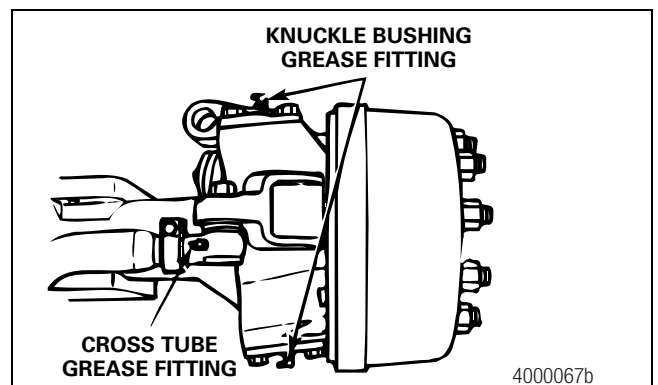

Figure 5.20
1. Check the cross tube for looseness of more than 0.060-inch (1.52 mm). Figure 5.20.